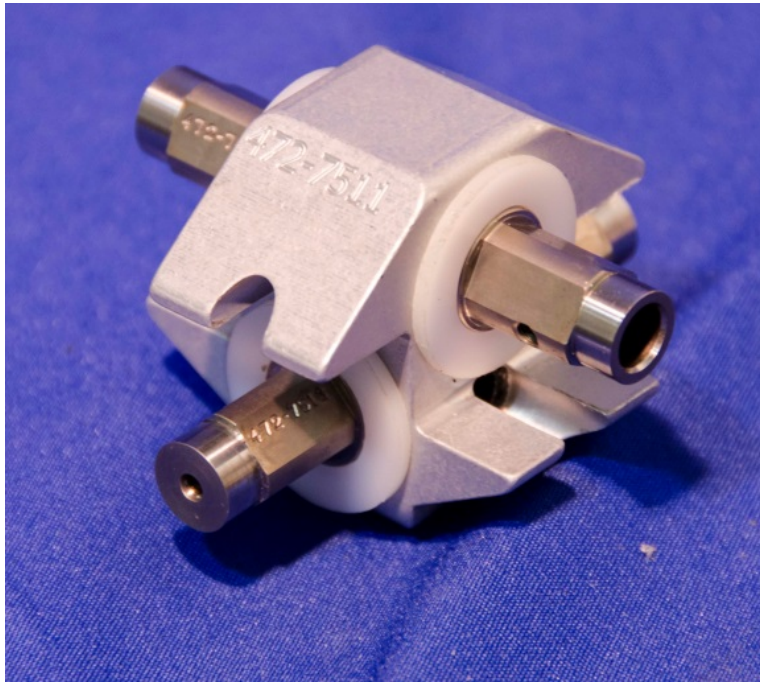

Figure 12-32. Install retaining washers in upper and lower torque shafts
- 12.2.2.17 Install the four Retaining Washers (472-7515) over each end of the Upper (472-7512) and Lower (472-7513) Torque Shafts on the Ankle Center Block (472-7511) (Figure 12-32).